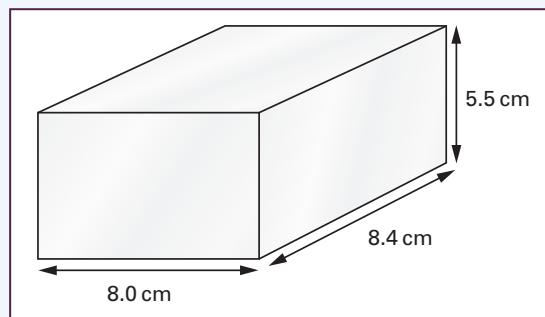

Figure 1.14 A block of ice – for Question 1.1.
- 1.1 An ice cube has the dimensions shown in Figure 1.14. Its mass is 340 g. Calculate: